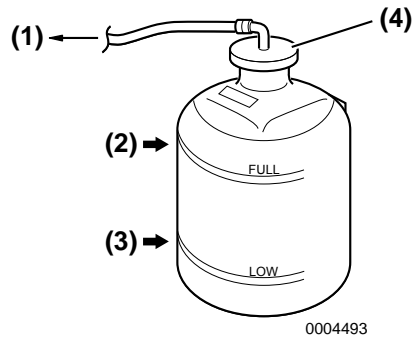

Figure 12
6. Check the coolant level in the coolant recovery tank. The level should be at the FULL mark (Figure 12, (2)). Add coolant if necessary.
7. Remove coolant recovery tank cap (Figure 12, (4)) to add coolant if necessary. NEVER add water.
9. Check the rubber hose **(Figure 12, (1))** connecting the coolant recovery tank to the coolant tank / heat exchanger. Replace if damaged.